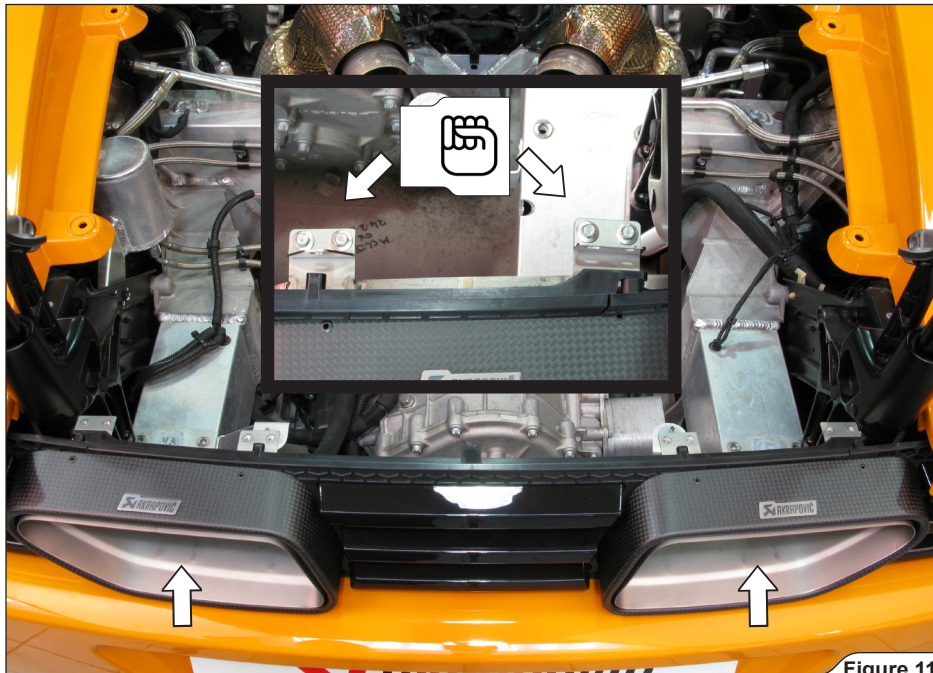

Figure 11
1. Correctly orient and carefully insert the tail pipes into the tail trim panel and hand tighten the brackets onto the tail pipes (using bolts from Akrapovič installation kit), as shown (**Figure 11**).